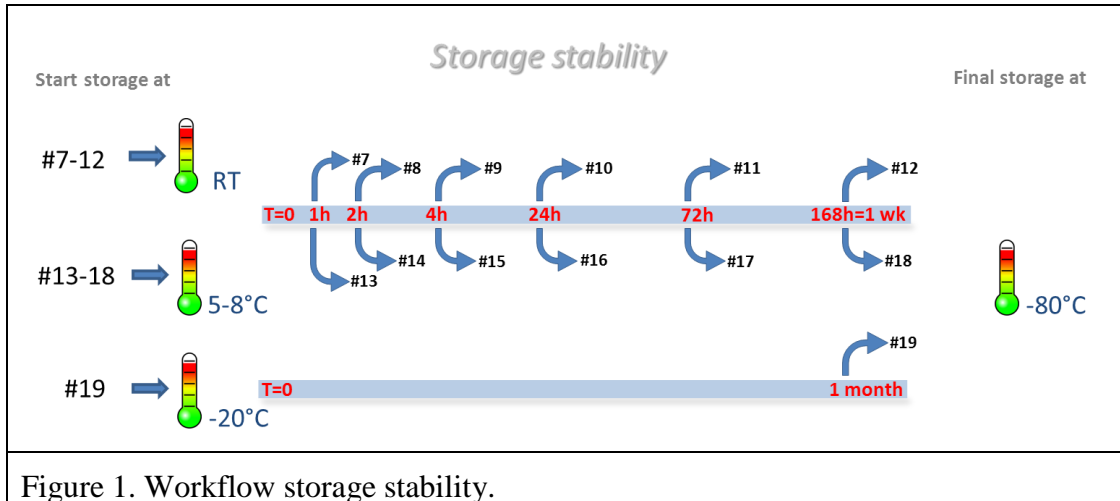

Figure 1. Workflow storage stability.
- At time points  $t=1h$ ,  $t=2h$ ,  $t=4h$ ,  $t=24h$ ,  $t=72h$ ,  $t=168h$ , transfer one sample stored at each temperature, RT and 4°C, to -80°C (see fig. 1).